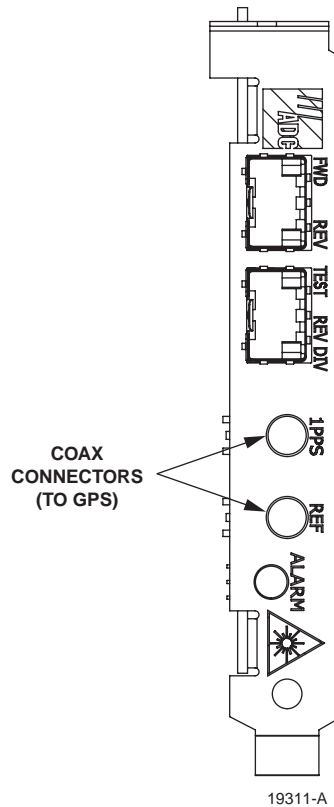

Figure 2. Coax Connectors
4. Connect the cables to the connectors on the WBDR PCIx Host card as shown in Figure 2.